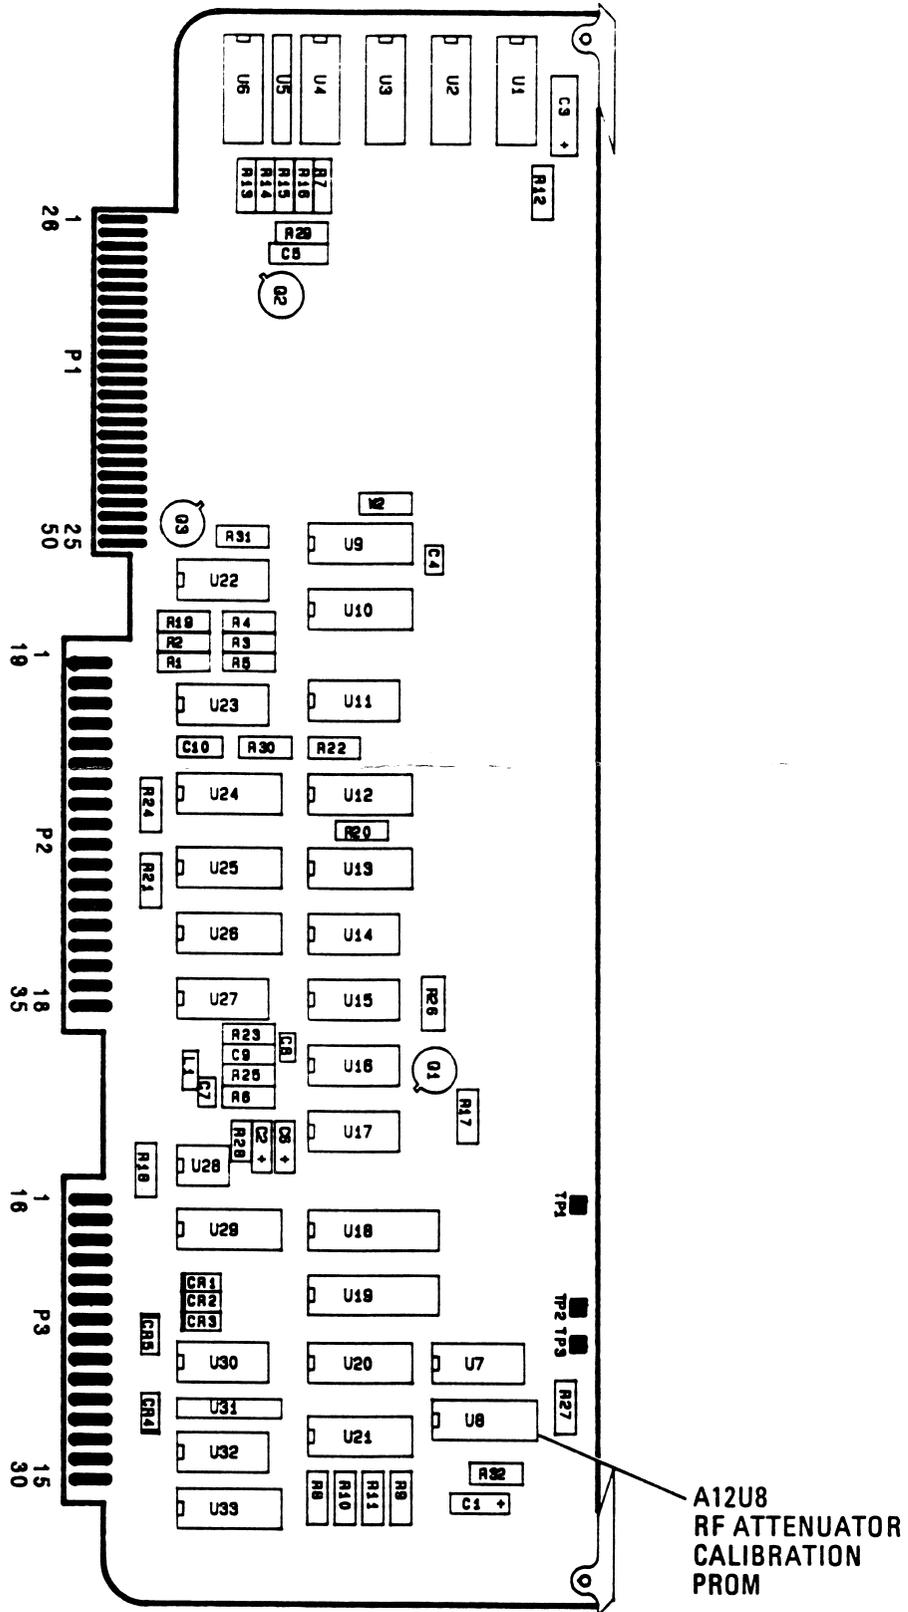

Figure 14. A12 Front-Panel Interface, Component Locations
18. Locate 16-pin DIP socket (A12U8) on A12 Front Panel Interface Assembly (Figure 14). Remove and discard RF Attenuator Calibration PROM A12U8 (some boards might not have socket installed, HP Part Number 1200-0812).
19. Carefully install new RF Attenuator Calibration PROM A12U8 into 16-pin DIP socket on A12 Front Panel Interface Assembly Figure 14.